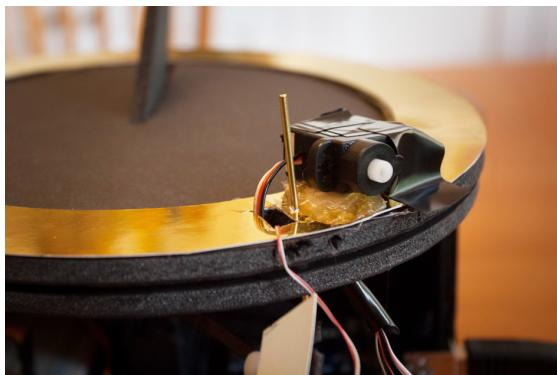

Figure 7-19 The azimuth arm wire poking up through the southern-aligned hole in the azimuth ring
7. Immediately next to the elevation servo, make a hole through the center of the azimuth ring with an awl. The azimuth arm's wire should fit into this hole. This is how the azimuth arm will move the azimuth ring, through the base disk's track. This *due-south alignment hole* (see Figure 7-19) will point, you guessed it, due south when the sundial is in its initial state—that is, directly opposite of the gnomon.